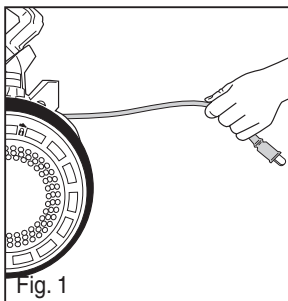

Fig. 1
- Insert hose into suction inlet; push in until it clicks (Fig. 1).
- Pull out cord to desired length (Fig. 1) and plug into electrical outlet.